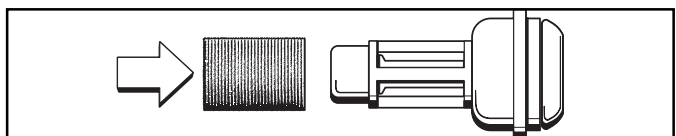

Figure 7
1.3.11 Slide the cylindrical screen(18) over the narrow end of the push rod housing until it rests against the base (see Fig. 7).